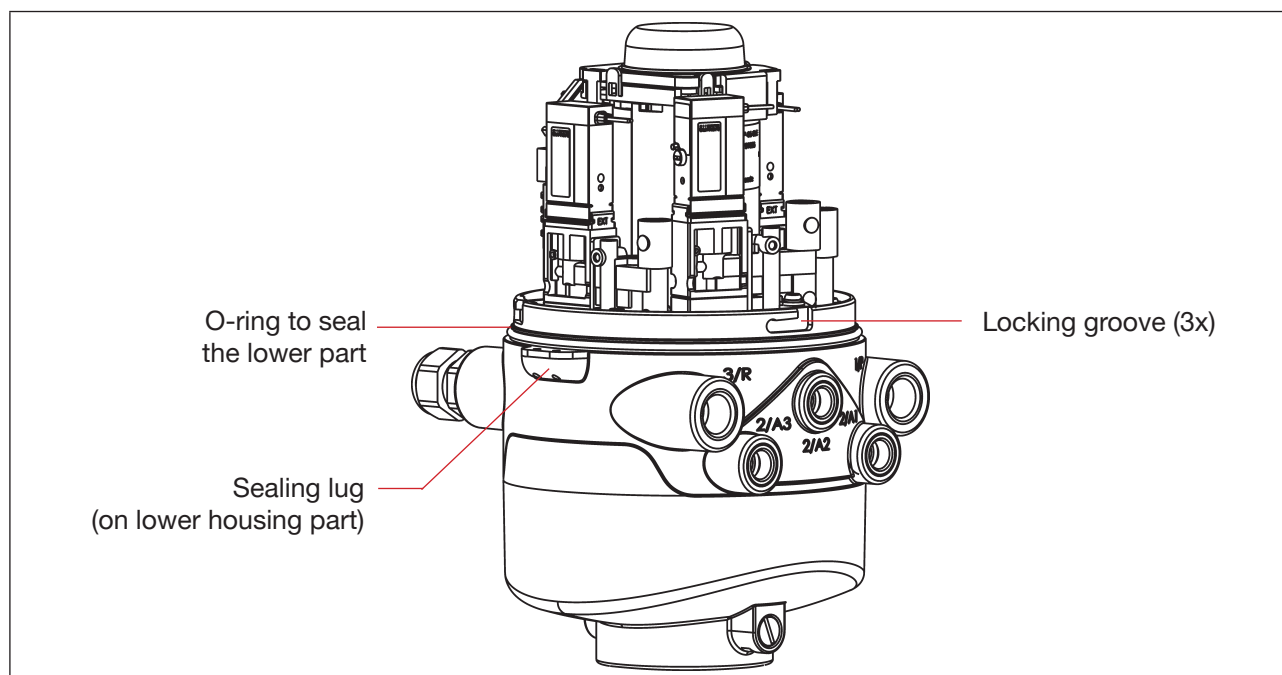

Fig. 11: Sealing lug and locking grooves
- Remove lead seal if housing is secured – see “Fig. 11” on page 37.
- Put the plastic hood on the lower part such that the inner "lugs" are positioned over the locking grooves and the external sealing lugs are positioned almost over each other. Press the hood completely over the seal (O-ring) of the lower part – see also "Fig. 11".